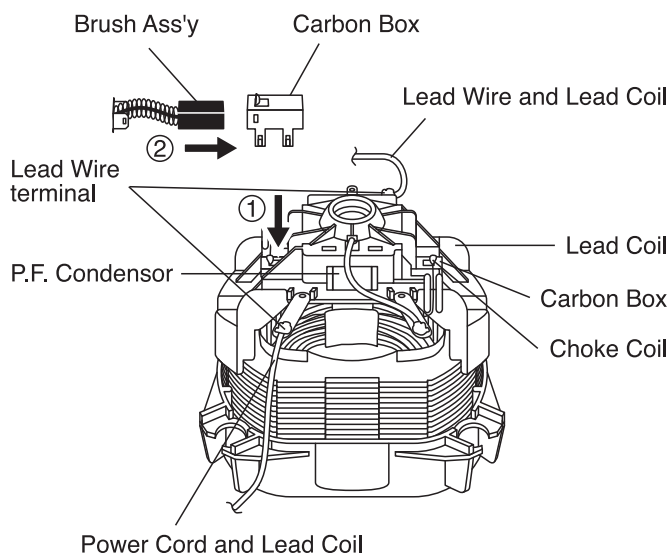

Fig. 7
2. Set the Brush Ass'y and the Carbon Box in the frame. (Fig.7)
3. Solder the four lead coils of the Field Ass'y to the lead wire terminal,for wiring. (Fig.7)